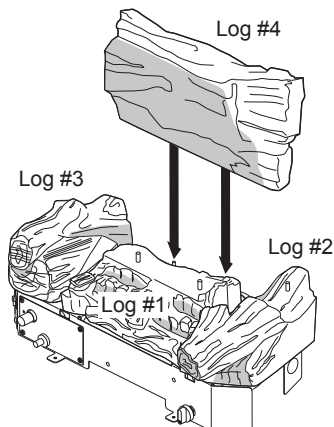

Figure 24 - Installing Log #4 (Model VRL30NR Shown)
4. Place log #4 onto two alignment screws to rear of base (see Figure 24).